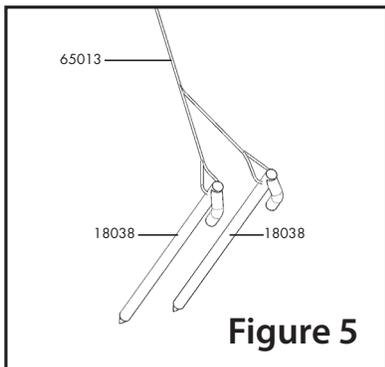

Figure 5
11. Insert one stake (18038) at a time through the ends of the 12' split guy-wire cable (65013) (**Fig. 5**). Pound in stakes at an angle.